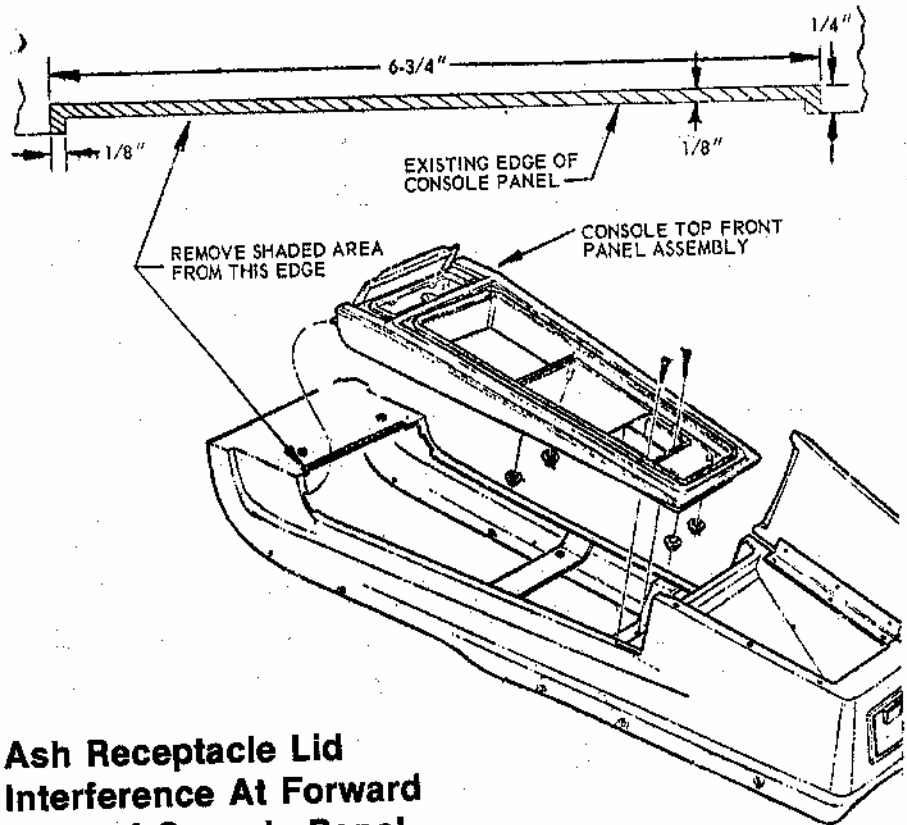

Figure 2 - Ash Receptacle Lid
2. Remove the console top front panel assembly to gain access to the front edge of the console panel as shown in Fig. 2.
3. Increase the size of the existing ash receptacle opening in the console panel by 1/8" as shown by the shaded area on Fig. 2.